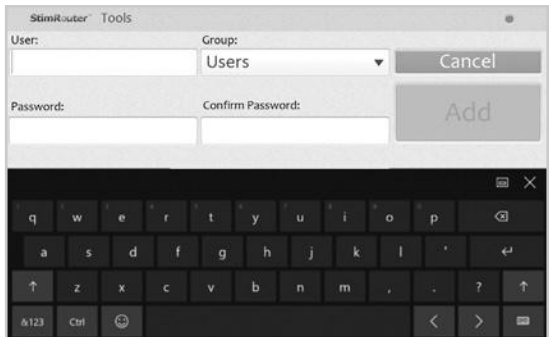

Figure 11-3: Add new user window
- 2. Enter a user name and password, confirm the password, select either “Users” or “Administrators” from the “Group” drop-down list, and then press the “Add” button. See Figure 11-3.